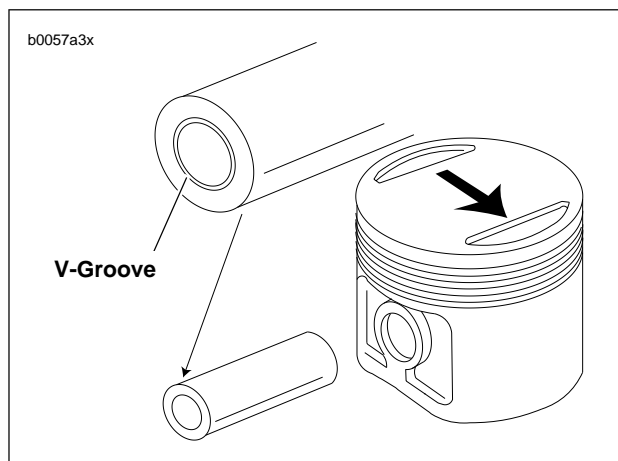

Figure 3-32. Piston Pin and Piston Identification
Since the piston pin is a loose fit in the piston, the pin will easily slide out. The pins have tapered ends to help seat the round retaining rings. See Figure 3-32. 1200cc piston pins are stamped with a V-groove at one end.
- Mark each pin boss with either an "F" or an "R" to indicate front or rear cylinder, respectively. See Figure 3-32. The arrow at the top of 1200cc pistons must always point toward the front of the engine.